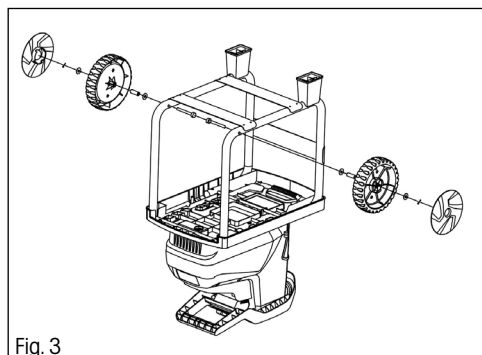

Fig. 3
2. Install the wheels as follows: (Fig. 3)